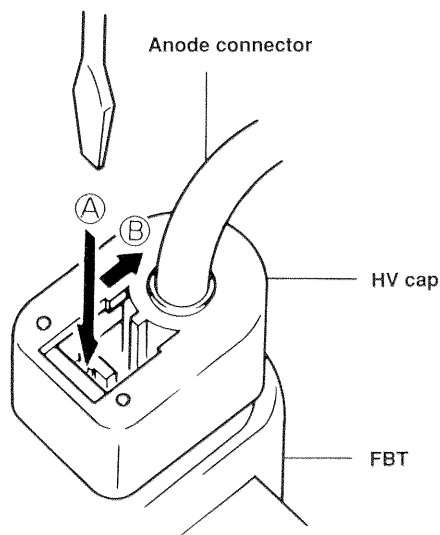

Fig. 6
1. Insert a small flat-bladed screwdriver (adjustment screwdriver: 5-7 mm wide and 0.2-0.3 mm thick) into section (A) in Fig. 6 and then push it in the direction of arrow (B). The lock will release with a click. (The state in Fig. 8 (1) will change to that in Fig. 8 (2).)